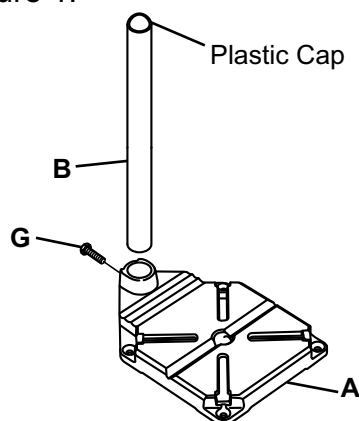

Figure 1
2. Insert post (**B**) into base. Make sure plastic cap is on top. Install and tighten base bolt (**G**) securely. See Figure 1.